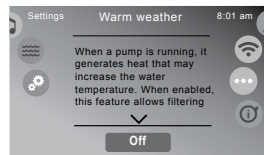

Figure 12.7b
A. Warm weather (Figure 12.7b)